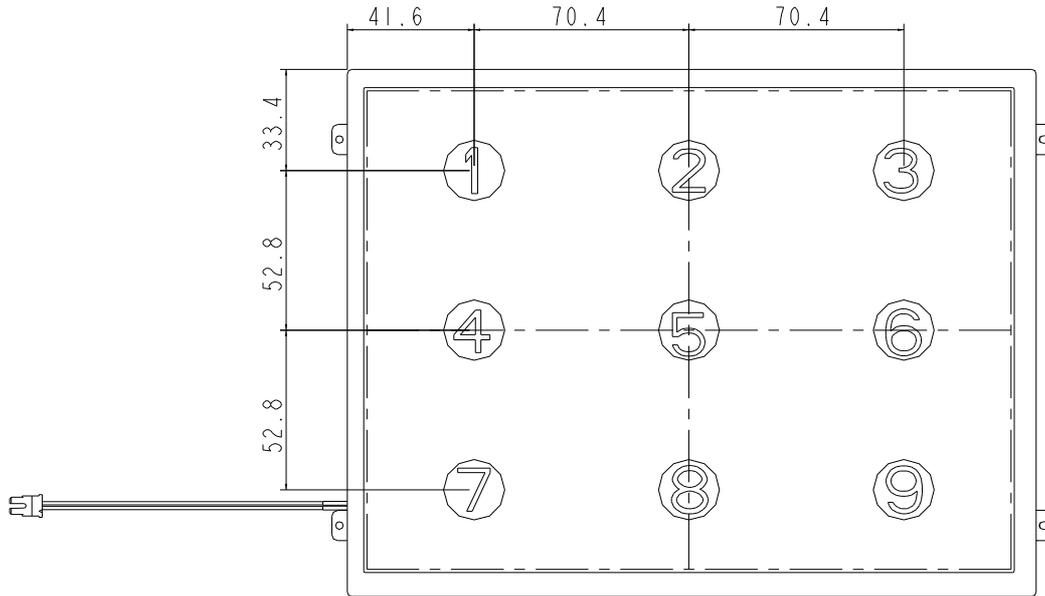

Fig7-1 Measuring point
- \*3) Definition of luminance : Measure white luminance on the point 5 as figure7-1
Definition of Luminance Uniformity: Measure white luminance on the point1~9 as figure7-1